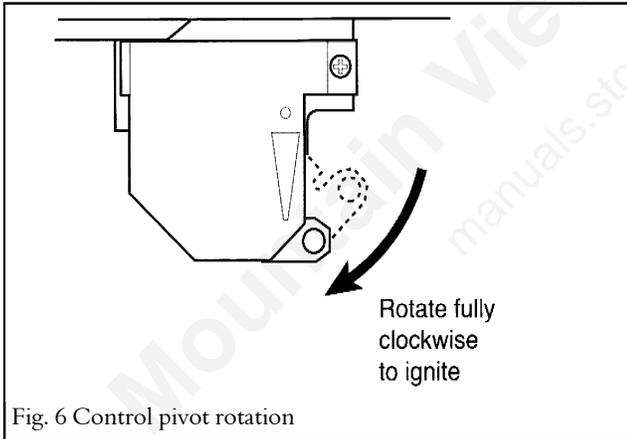

Fig. 6 Control pivot rotation
7.1.2 Rotate the control pivot bracket clockwise as far as it will go (see figure 6). This should close the ignition circuit.